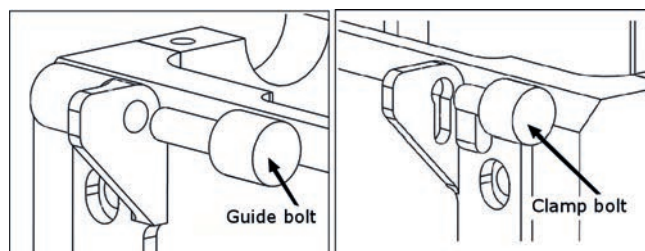

Fig 1C. Location of bolts hinges
1. Place the lid on the knives box matching the lid bolts whit notches of hinges (See Fig. 1C) on the left side of hinges.